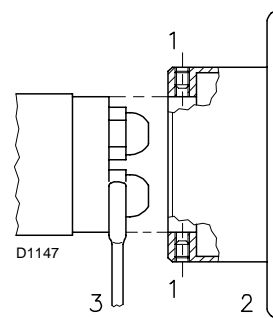

Fig. 14
- fitting the wrench through the central hole in the flame stability disk or loosen screws 1)(Fig. 14);